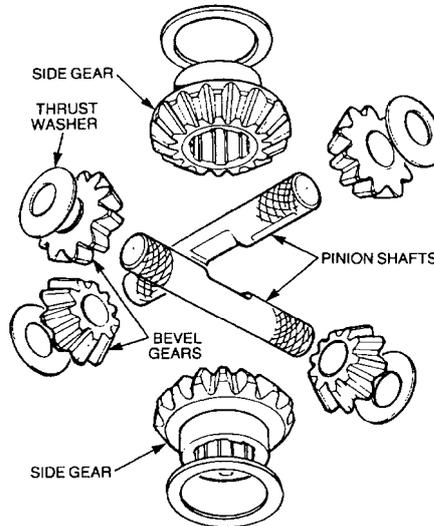

Figure 189 Removing the Differential Gears
- aa.** Lift off the upper side gear, slide out the pinion shafts, remove the bevel gears, thrust washers and the lower side gear (Figure 189).